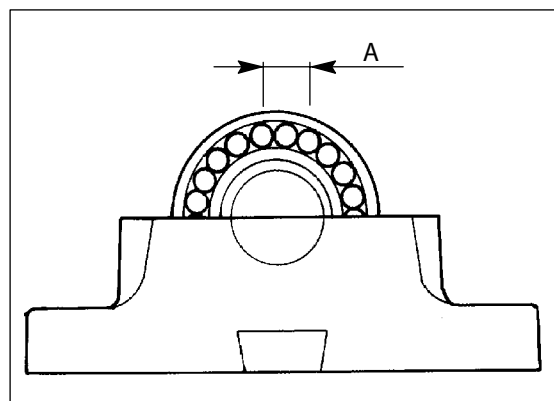
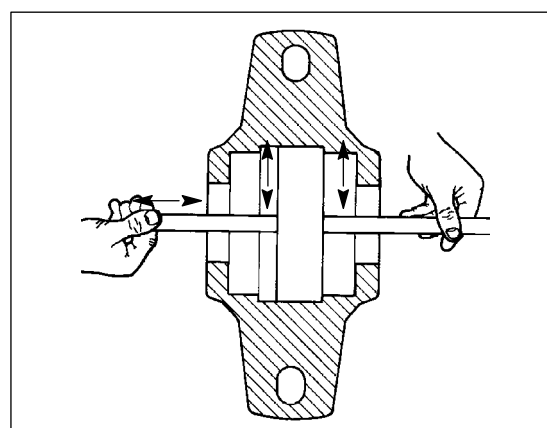

Fig. 31. Push the feeler gauge between the rollers and outer ring.
Fig. 32. Measuring the clearance
2. Remove the fastening bolts (M10) (7) and the upper bearing housings (6).
5. Bend the claw of the securing ring (3) out from the notch on the axle nut and open the axle nut.
6. Remove the spacer ring (3) if the bearing is at the feeder side.
7. Measure the radial clearance on top of the bearing between the rollers and outer ring with a feeler gauge. The clearance should be 0.02–0.03 mm (0,008-0,012"). Measure the clearance by pushing the feeler gauge between the rollers (point A, Fig. 31.) through the bearing and then moving the gauge back and forth between the rollers and outer ring - see Fig. 32. Do not force the feeler gauge through the clearance.
8. If the clearance exceeds 0.03mm, bend the claw of the securing ring (2) out from the notch on the axle nut (1).
12. Install the upper bearing housing and tighten the bolts (6) to 50 Nm (36 7/8 lbf).